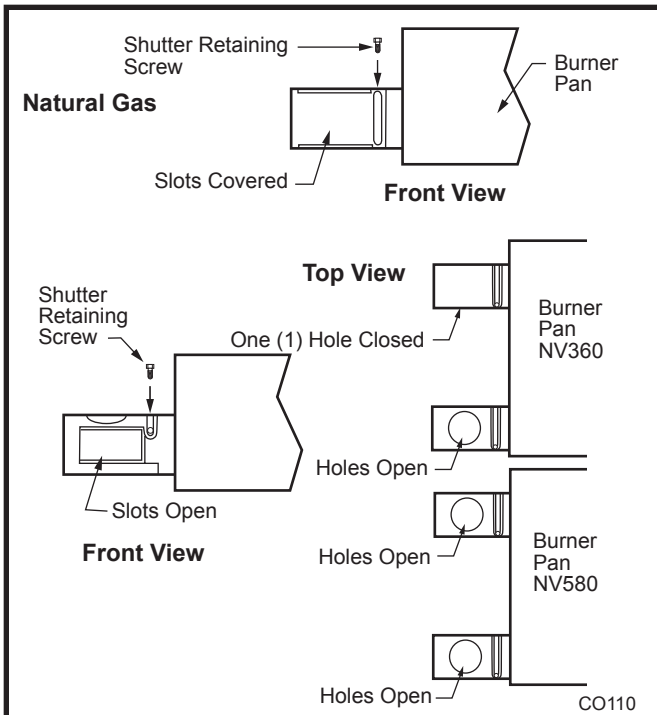

Fig. 27 Install conversion air shutters.
5. Install air shutters supplied in kit on burner pan. Replace shutter retaining screw. For conversion to Natural Gas adjust new air shutters so slots are covered. For conversion to Propane Gas, adjust new air shutters so slots are open. **NOTE:** NV360 air shutter has only one hole, closed. Secure shutter retaining screws. (Fig. 27)